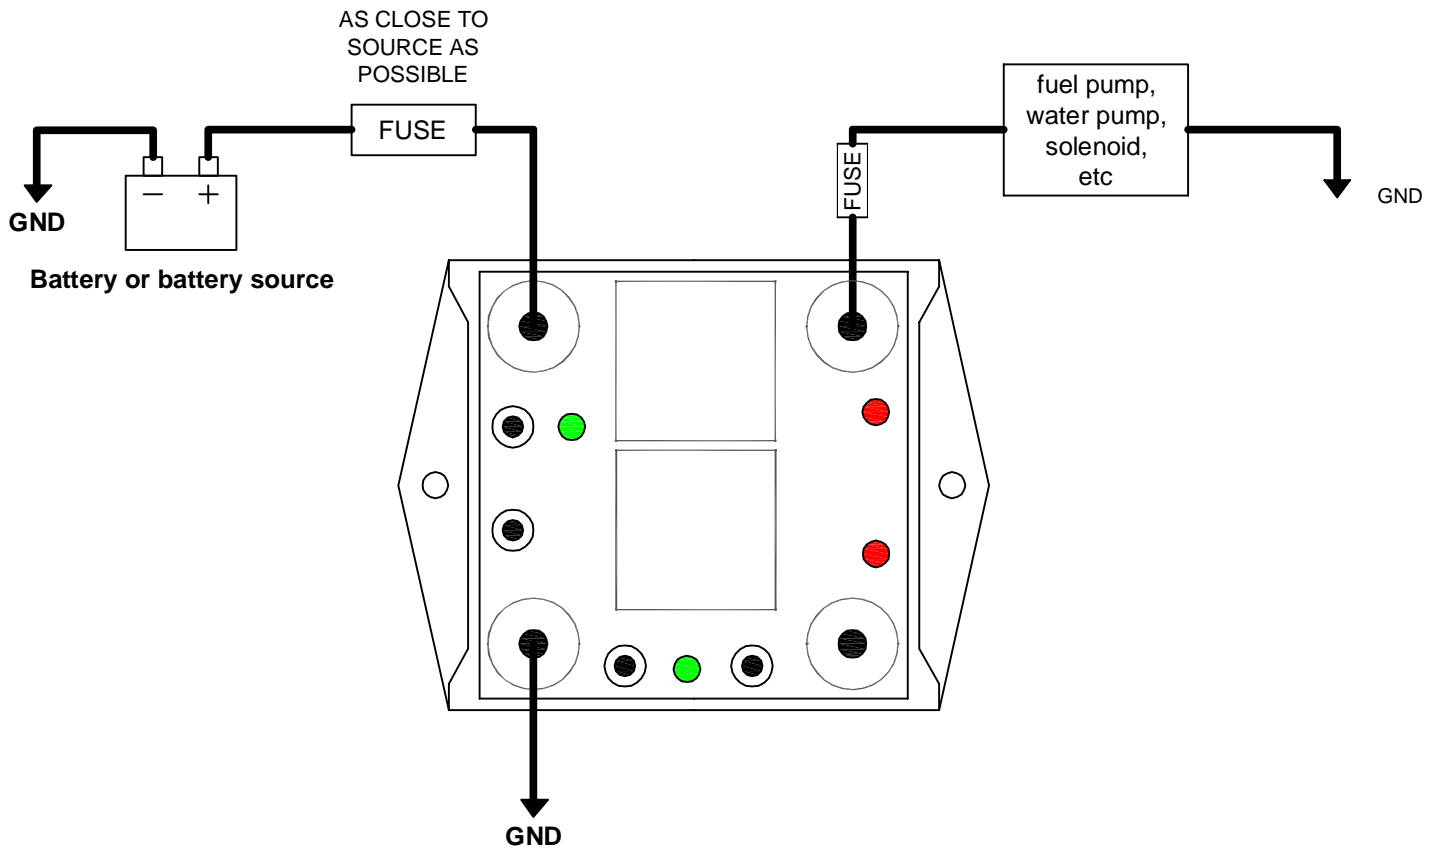

FIG. 1 Power and Output Hookup
- Figure 1 Power and Output Hookup
1. Run a wire from a fused power source to the stud labeled **BAT +** as depicted in **Figure 1**. The battery is a good source for this connection. This wire should be 10 gauge up to 6 gauge. Wire gauge should be appropriate to the maximum amperage that will be supplied by the relay center. A red ring terminal is provided for this connection. Tighten the nut to 25 inch pounds.
3. An example for wiring the outputs is provided in **Figure 1**. Yellow ring terminals for 10-12 gauge wire are provided for output connections. Tighten the nuts to 25 inch pounds.